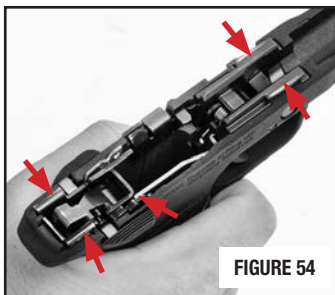

FIGURE 54
- There are several lubrication points (FIGURES 54 and 55) where a single drop of high-quality firearms lubricant should be applied. This will ensure proper lubrication.